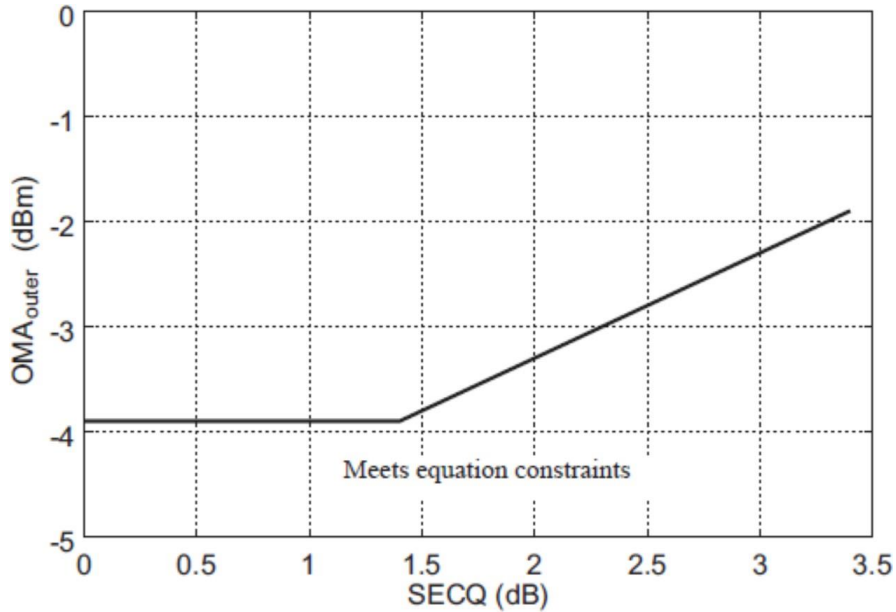

Figure 4. Illustration of Receiver Sensitivity Mask for 100G-DR
6. Receiver sensitivity (OMA_{outer}) (max) is informative and is defined for a transmitter with a value of SECQ up to 3.4 dB. It should meet Equation (1), which is illustrated in Figure 4.